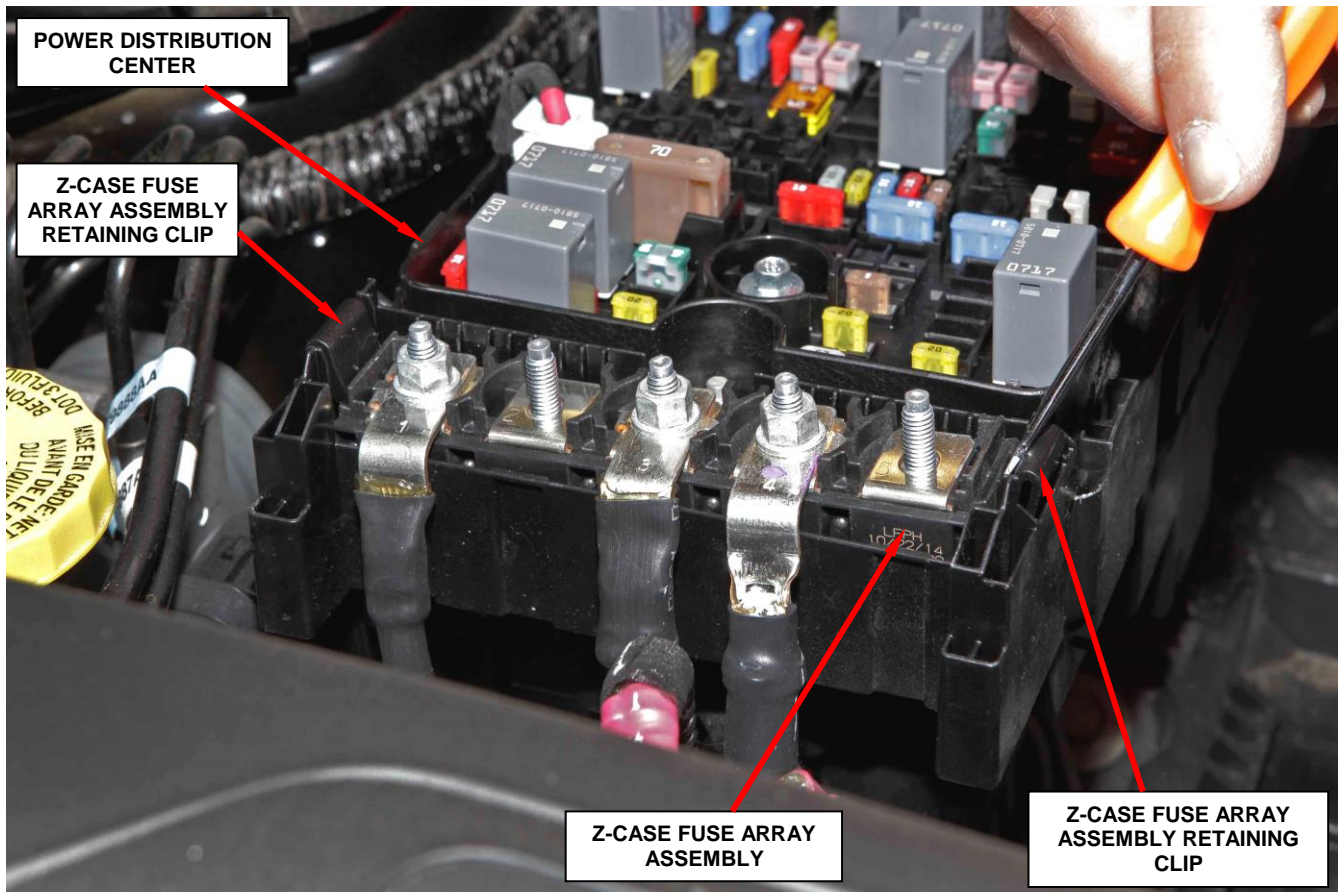

Figure 3 – Z-Case Fuse Array Assembly
5. Disengage the Z-case fuse array retaining clips and separate the Z-case fuse array assembly from the PDC (Figure 3).